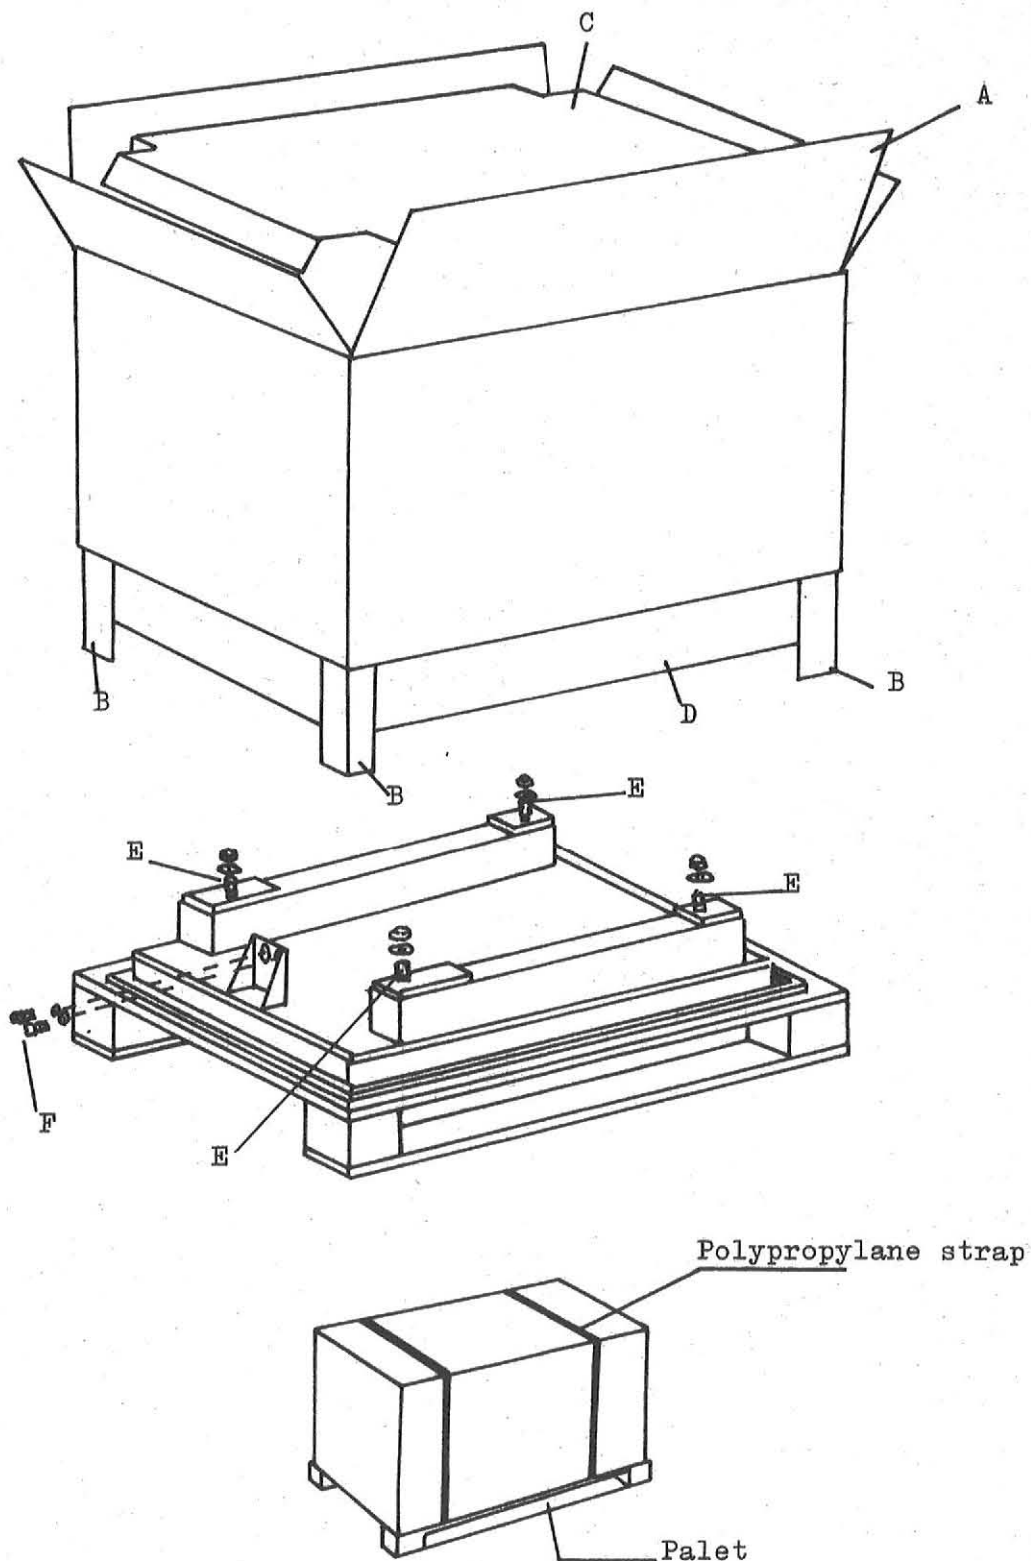

Fig 11-1 UNIT STORAGE
3.1 PACKING (fig 11-1)
3.2 UNPACKING (fig 11-1)